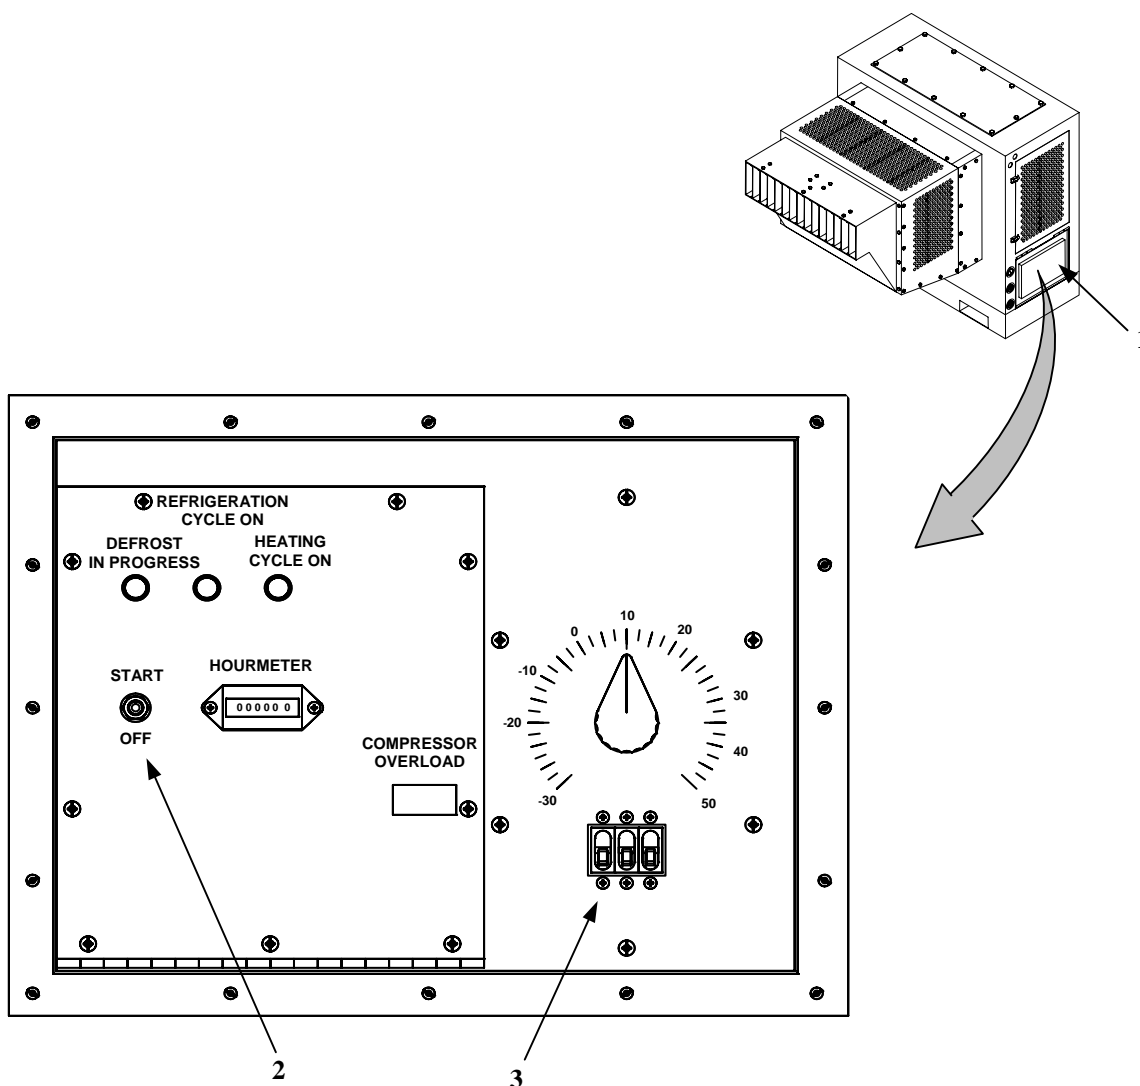

Figure 14. Refrigerated Container, Shutdown Operating Procedures, Refrigeration Unit
1. Shut down refrigeration unit (Figure 14).
- a. Open control panel door (1) and secure in the upright position.
- b. Place the START/RUN, OFF toggle switch (2) in the OFF position.
- c. When the refrigeration unit stops running, place the circuit breaker (3) in the OFF position.